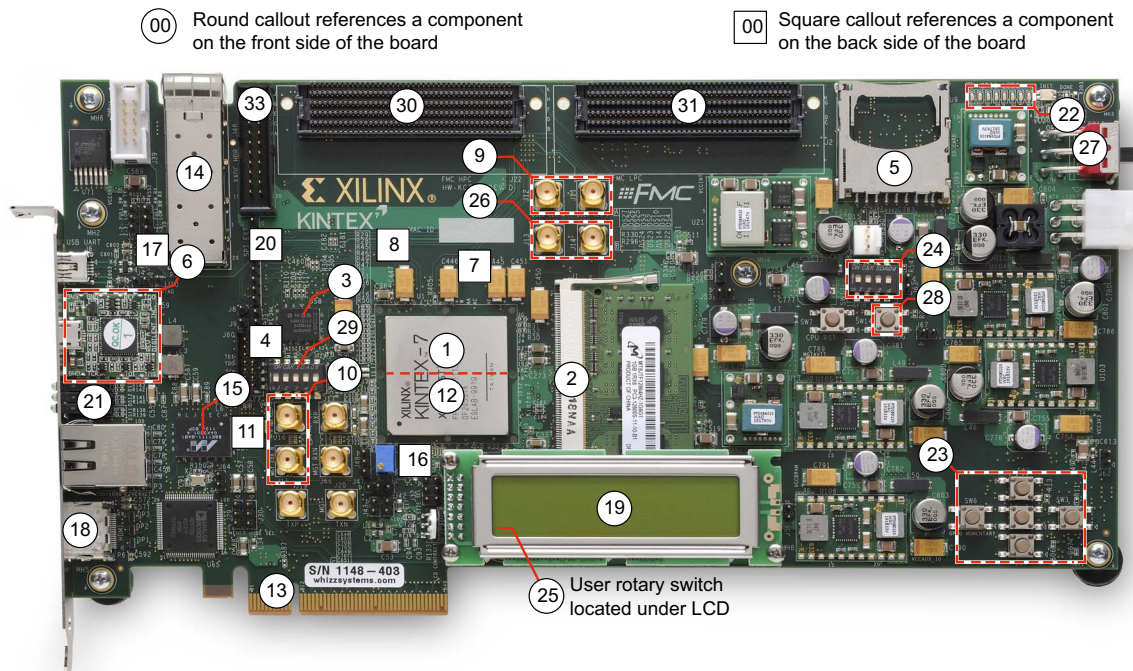

Figure 8: KC705 Board
1. Connect a USB cable from the host PC to the USB JTAG port (item 6 in Figure 8). Ensure that the appropriate device drivers are installed (for additional information, see the *Kintex-7 FPGA KC705 Evaluation Kit Getting Started Guide* (UG883) [Ref 2]).
2. Connect a second USB cable from the host PC to the USB UART port (near item 6 in Figure 8). Ensure that the USB-UART drivers described in Hardware and Software Requirements, page 2 have been Installed.
4. Turn the power on (item 27).
This section provides instructions on executing the reference design in hardware. The reference design runs on the KC705 board shown in Figure 8. In these instructions, numbers in parentheses correspond to the callout numbers in Figure 8. Not all callout numbers are referenced.